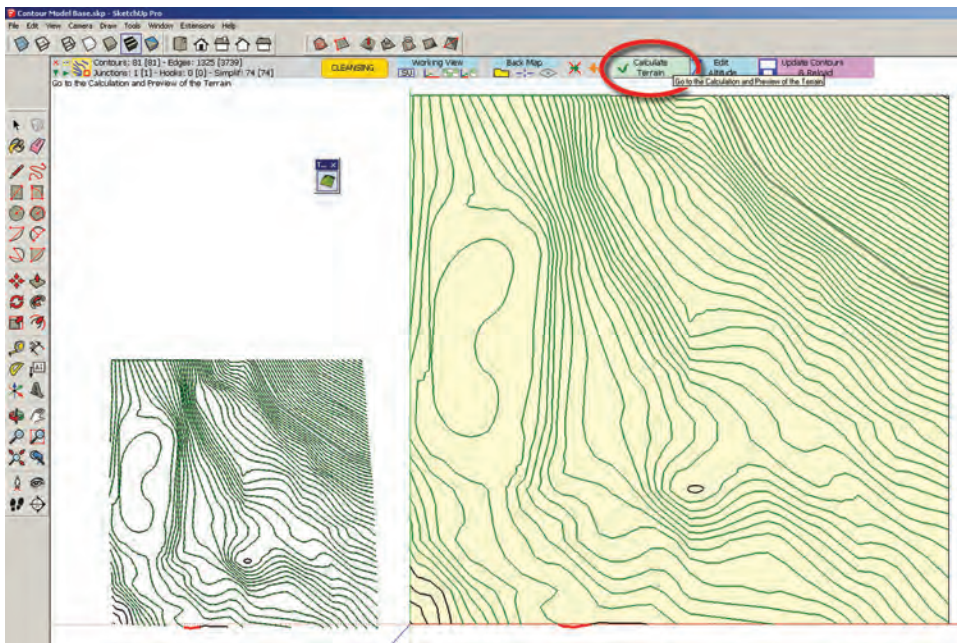

Fig. 15-7: From the first TopoShaper screen, select Calculate Terrain at top.
- From the first TopoShaper screen, select Calculate Terrain at top (Fig. 15-7).